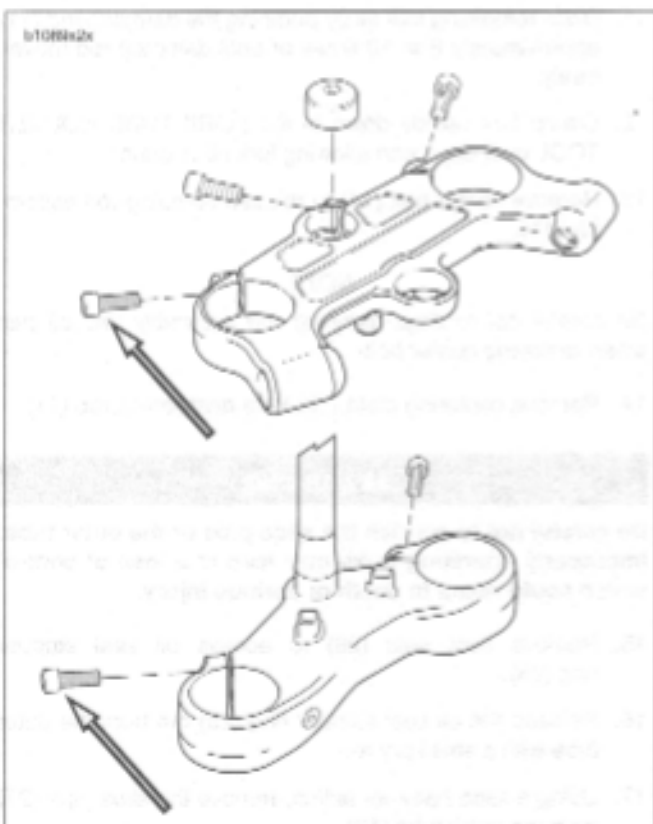

Figure 2-56. Upper and Lower Fork Clamp Pinch Fasteners
4. See Figure 2-56. Loosen upper and lower fork clamp pinch fasteners.